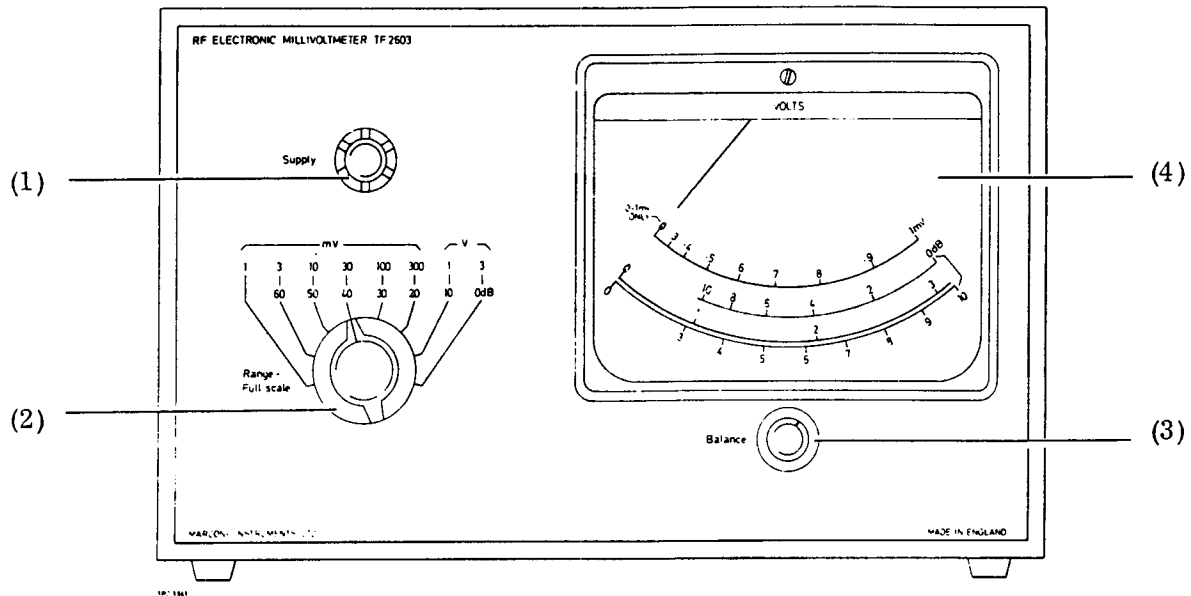

Fig. 1 Controls and connectors on front panel
1. The controls and connectors on the front panel of the voltmeter (Fig. 1) are as follows:-